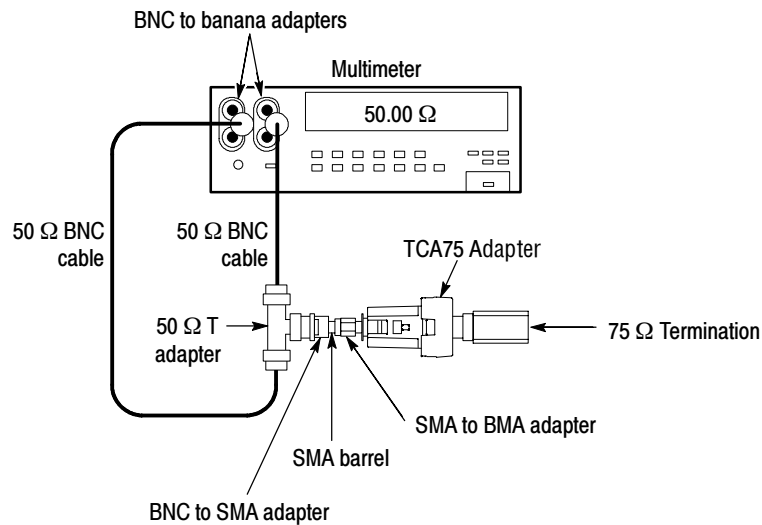

Figure 4: Test setup for output impedance
2. Connect the TCA75 adapter as shown in Figure 4.